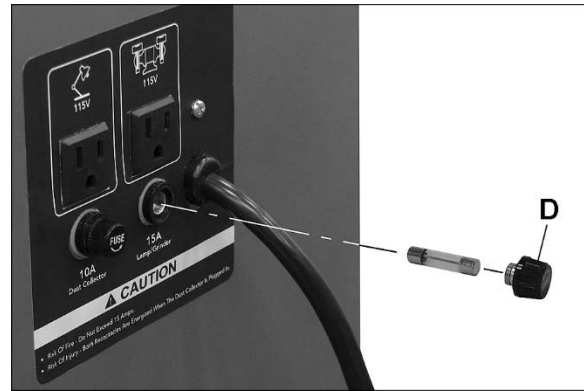

Figure 7
1. Rotate fuse seat (D, Figure 7) counterclockwise and remove from socket.